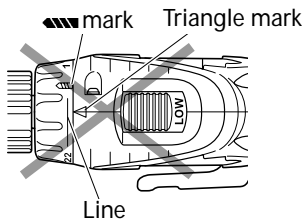

Fig. 17
- Do not use with the clutch dial set at the line between the number "22" and the drill mark "◊". Doing so may cause damage (See Fig. 17).